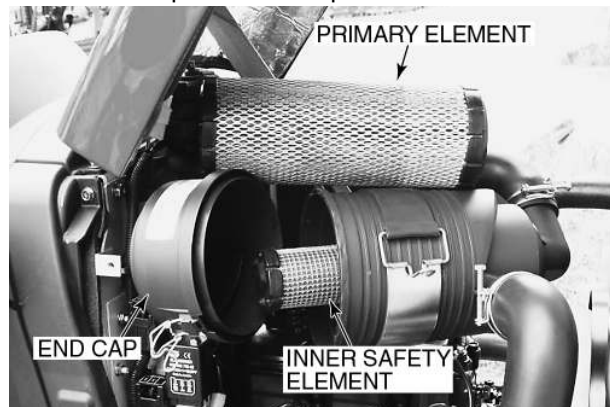

Figure 54 - Air Cleaner—Disassembled
**Checking element :** Check the air cleaner primary element for cleanliness, daily or every 10 hours, Figure 54.
The air cleaner contains two elements: an outer primary element and an inner safety element. To remove the primary element, push in on the end cap and rotate counterclockwise. Remove the end cap from the air cleaner body to expose the primary element, Figure 54.
1. Pull the primary element, Figure 54 , from the canister. Clean any loose dirt from the canister and inspect the end of the canister for dirt which may prevent the new element from sealing properly.
**NOTE:** For maximum engine protection and air cleaner service life, install a new inner safety element, Figure 54, every third primary element change or after every 1000 hours of operation, whichever comes first.